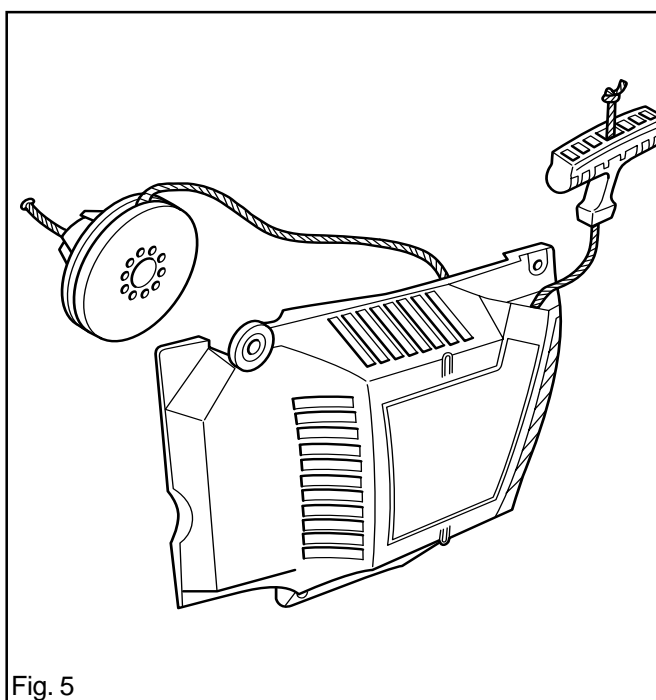

Fig. 5
3. If a new cord is to be fitted, push the free end in the hole in the starter pulley. Take hold of the end with pointed pliers inside the pulley and pull up the cord. See fig. 5.
6. Pull out the cord through its hole in the housing and fit the handle and secure it with a double knot. See fig. 5.
2. Fit the flywheel washer and nut. Tighten the nut to 35 Nm. See fig. 5.